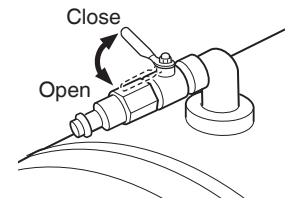

Fig. 6
- Close the air valve. (Fig. 6)